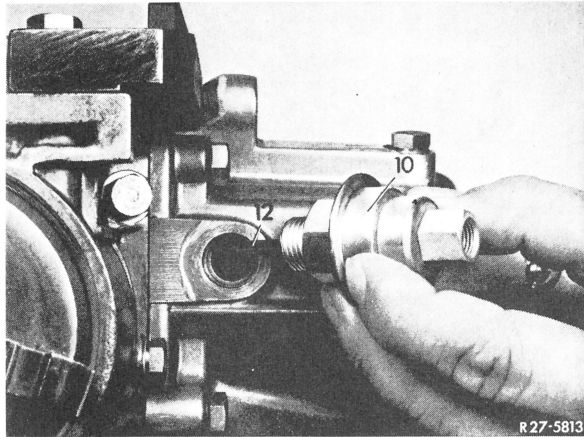

Fig. 15
**20** Swivel transmission on assembly fixture in such a manner that the rear transmission case faces upwards. Unscrew vacuum box (10) with thrust pin (12) (Fig. 15).